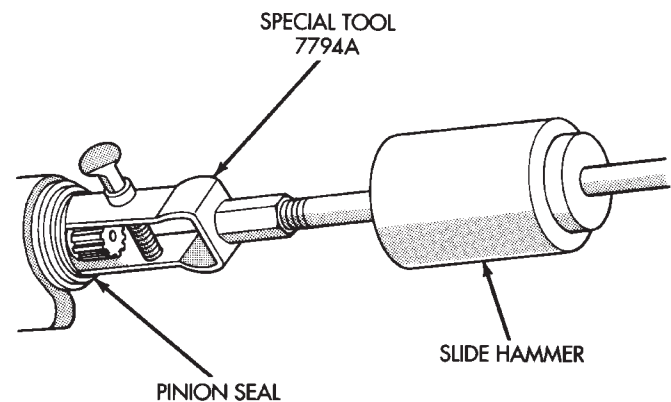

Fig. 18 Seal Removal
- (10) Use Remover 7794-A and slide hammer to remove the pinion shaft seal (Fig. 18).
- (11) Remove the front pinion bearing using a pair of suitable pick tools to pull the bearing straight off the pinion gear shaft. It may be necessary to lightly tap the end of the pinion gear with a rawhide or rubber mallet if the bearing becomes bound on the pinion shaft.
- (12) Remove the collapsible spacer.